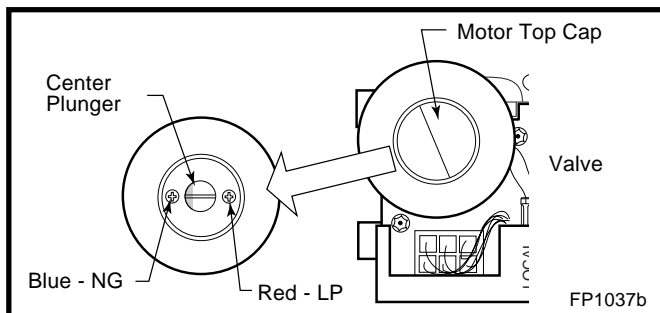

Fig. 63 Depress and turn center plunger.
18. Remove motor top cap. Depress and turn center plunger until arrow points to correct screw. Red for LP and Blue for NG. **NOTE:** Plunger will “snap” into NG position when arrow is close to blue screw. It will not “snap” at LP (Red) position. (Fig. 63)